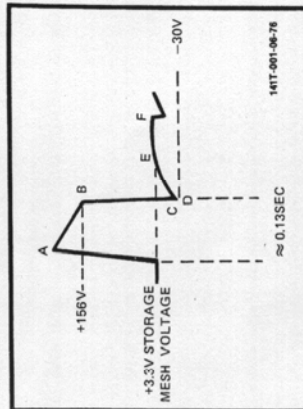

Figure 4-5. Erase Functional Waveform
4-49. When operating in the STD mode, at the instant the ERASE pushbutton is pressed, figure 4-5 point A, the following actions take place simultaneously:
e. When A5C8 voltage decreases to -12.6 volts, A5Q3 turns off (figure 4-5 point F), and the output pulse returns to the quiescent voltage of approximately 3.3 volts. A5Q20 and A5Q21 stop running and the collimator voltage returns to the nominal value.